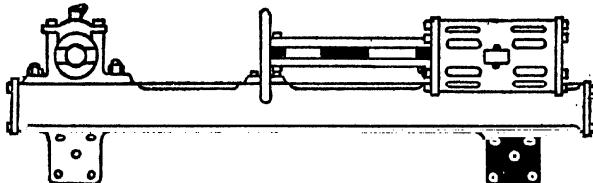
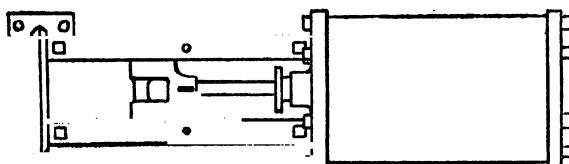

FIG. 37.—ENGINE BOX FRAME WITH LOCOMOTIVE GUIDES.
Fig. 39.—TOP VIEW LOCOMOTIVE STYLE CROSSHEAD AND GUIDES.
**Engine Frame.**—The engine frame may be one of several distinct types; however, only the girder type and box frame are used to any extent on farm engines. The latter is not used to as large an extent as the former except in the case of light engines. It consists of a hollow casting the length of the engine to which the cylinder is secured at one end, and the bearing for the crank shaft at the opposite end (Fig. 37).
these bars. A side view of this type is shown in Fig. 37 while Fig. 39 shows a top view with crosshead in position. The crosshead is not adjustable and any lost motion from wear must be taken up by changing the position of the guide bars. Side play is prevented by the guide bars having a bearing on each side of the crosshead, while the up and down motion is prevented by the top and bottom bearings of the crosshead. When these guides are adjusted in the proper manner they will do the work for which they are
**Piston Rod to Crosshead.**—In the locomotive crosshead (Fig. 39) the piston rod is usually fastened to the crosshead with a taper key. The rod is turned to a slight taper which fits snugly in a corresponding tapered hole in the crosshead. The tapered key when driven up tightly draws the rod very securely into the crosshead. This method has the disadvantage of not allowing any adjustment of the piston rod as to length and the clearance must be adjusted in the connecting rod boxes.